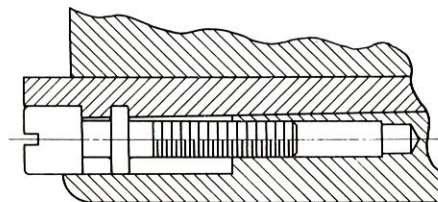

Figure 36
- Slide the table back into position, clean and apply sealer to face of table aprons, then mount them and adjust table leadscrew bearings (page 32). Reset table gib (Figure 36).
- Turn the adjusting screw (Fig. 36) to tighten the gib. Try movement of the unit by hand. Alternately tighten the screw and try by hand until unit is fairly tight, back screw away two turns, and then advance one turn.